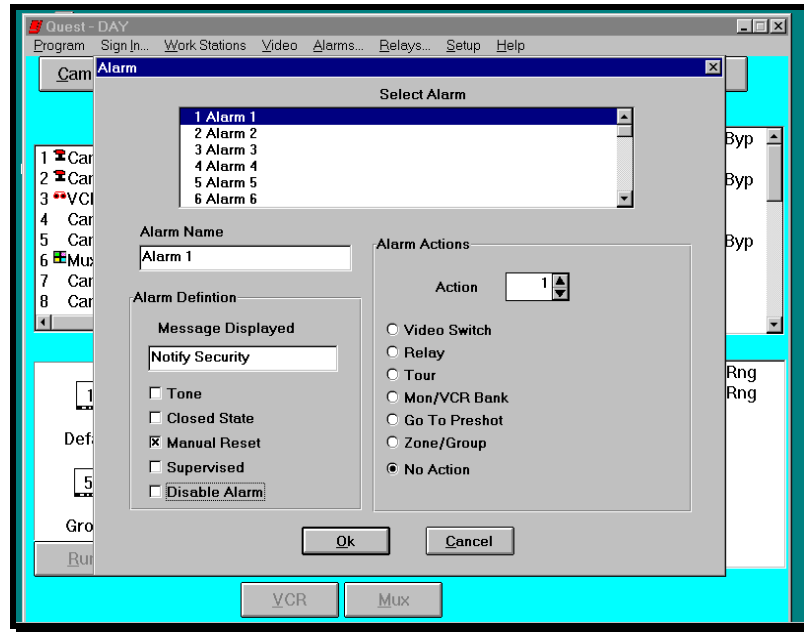

Figure 3-18. Alarm Setup Window
The Alarms selection from the menu bar (Figure 3-18) is used to program: (1) alarm names, (2) messages, (3) alarm definitions, and (4) up to 5 alarm actions per alarm. Each of the four functions are explained in detail below.